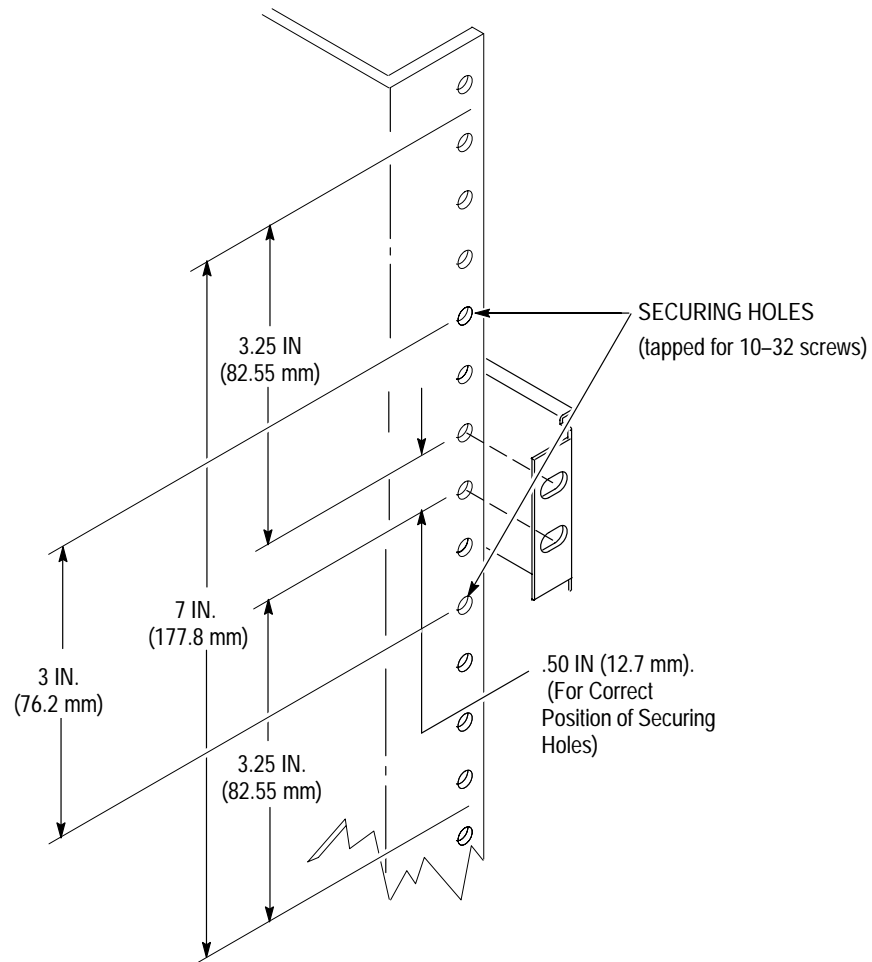

Figure 11: Vertical Clearances for Rack Installation (Left-Front Rail Shown)
- a. Select the mounting position in rack: Select two 1/2 inch spaced holes in the front rail. Verify that the 3 1/4 inch and 7 inch clearances exist relative to those mounting holes. See Figure 11.